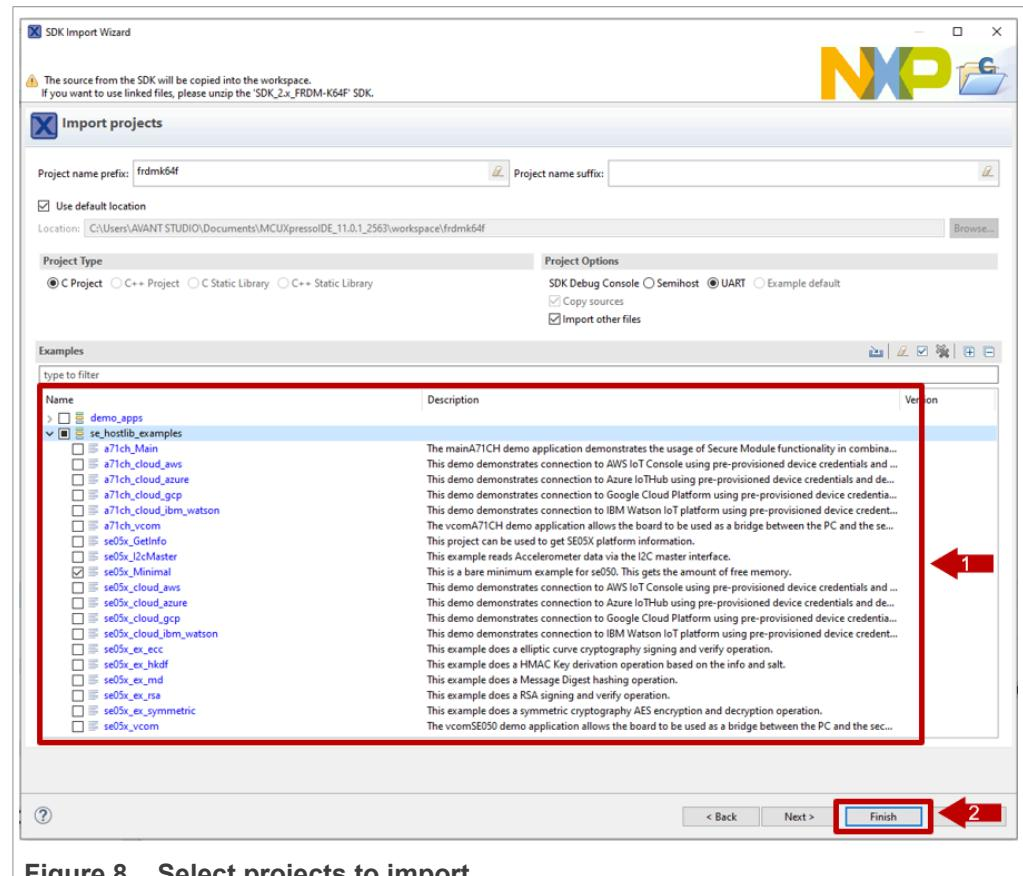

Figure 8. Select projects to import
3. Under the `se_hostlib_examples` drop down list, you have the list of supported project examples for the FRDM-K64F. Select the examples you would like to import in your MCUXpresso workspace and click *Finish* button as shown in Figure 8. For the